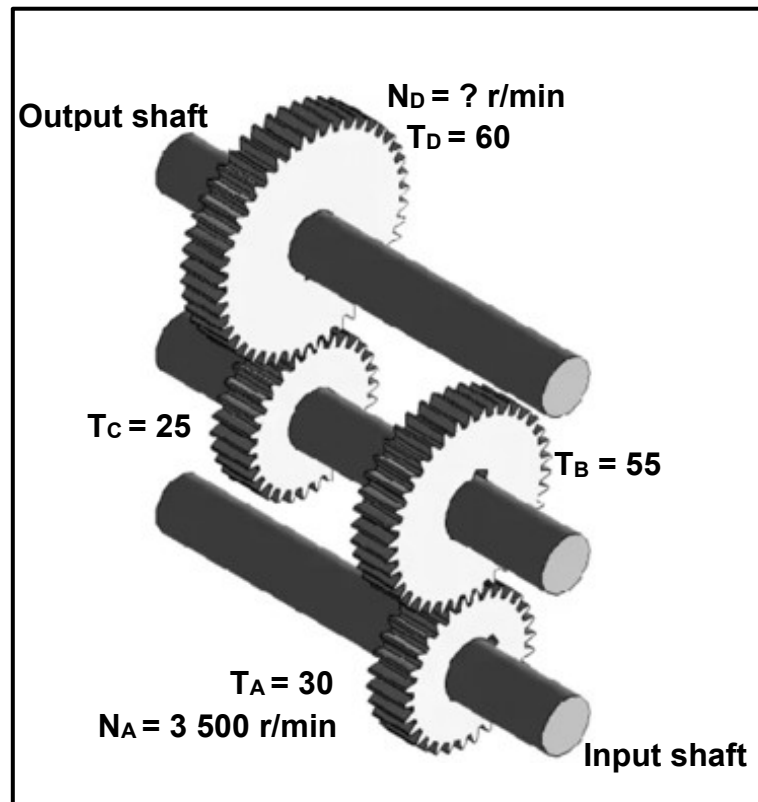

FIGURE 11.6
11.6 FIGURE 11.6 below shows a gear drive system.